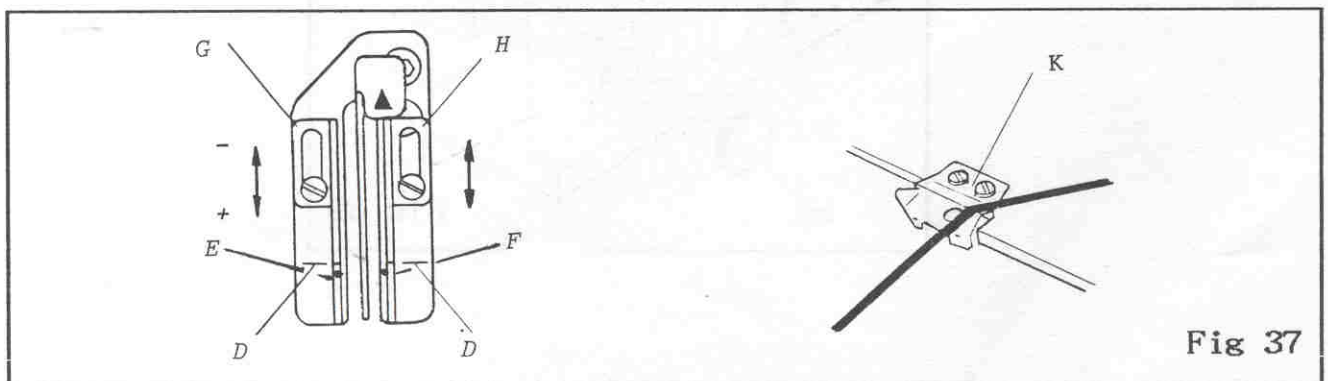

Fig 37
(E) and (F). (Fig 37)
disc (K). (Fig 37)